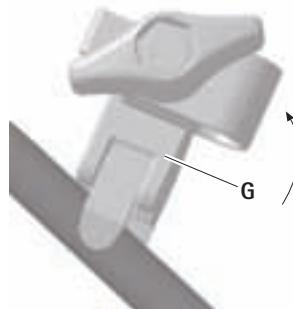

Fig. 9
- ▶ Slide off fastening clamp **G** from the frame by applying lateral pressure on the clamp, see Fig. 9.